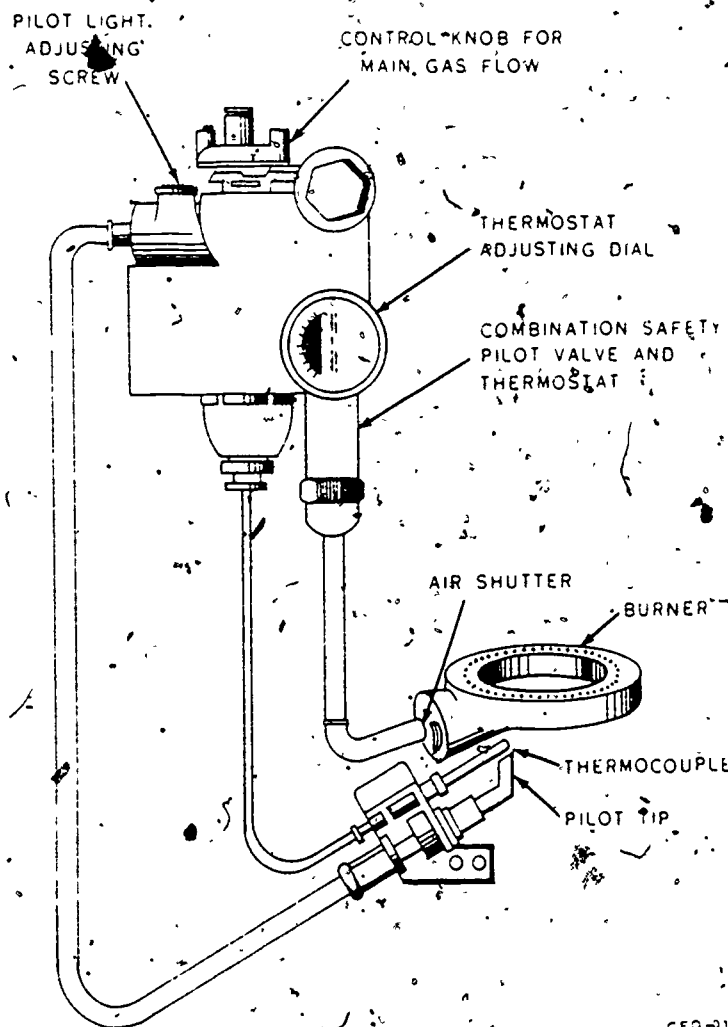

Figure 2-3 Automatic safety controls and burner assembly
**Gas Burners.** Figure 2-3, automatic safety controls and burner assembly, illustrates typical safety controls used for gas burners. Although this particular control is for a water heater, the principles of operation are the same for ovens, furnaces, and other gas burners. You should know the operating principles of safety controls so that you are aware when they are not operating properly.
Assume that you have closed the main gas valve using the control knob shown at the top of figure 2-3. Wait approximately 5 minutes before checking out the unit. To check it out, make sure the thermostat is opening and closing. You do this by turning the thermostat adjusting dial back and forth on the low temperature end of the scale until you hear a click. The clicking sound tells you that the thermostat is opening properly. After this test, set the thermostat adjusting dial to normal (140°) for ordinary use. Turn the main gas control knob to open and light the pilot. The safety controls automatically close the gas to the main burner when the pilot light is out.